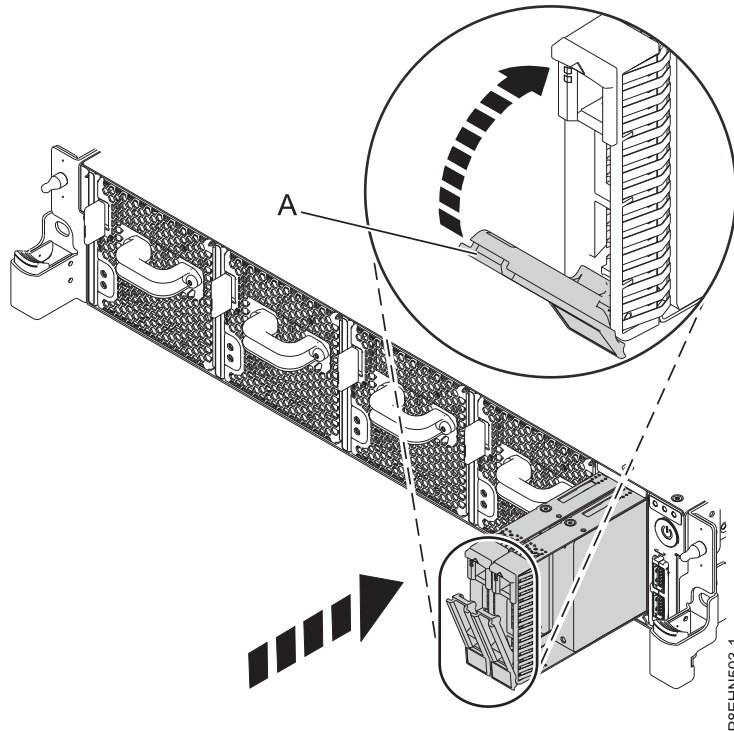

Figure 23. Disk drive lock detail
6. Lock the drive bay handle (A) by pushing in the handle release. See Figure 23 on page 21.